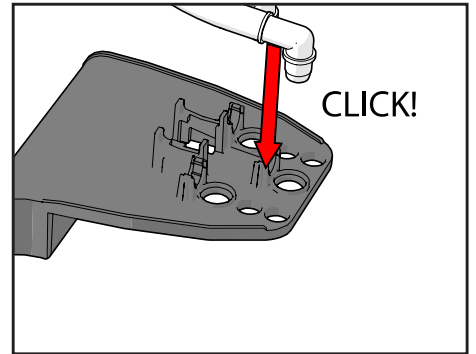
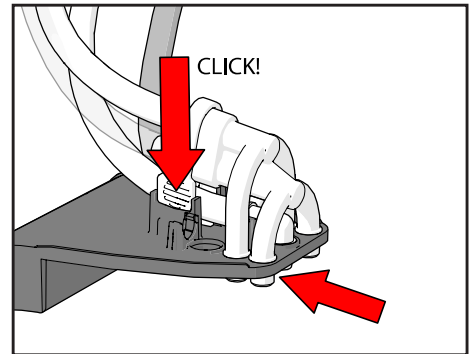

Figure 52.
Figure 53.
19. Reconnect the hoses to the outlet and outlet arm. Make sure that the four rubber spouts protrude through the outlet arm properly again (see Figure 52 en Figure 53).